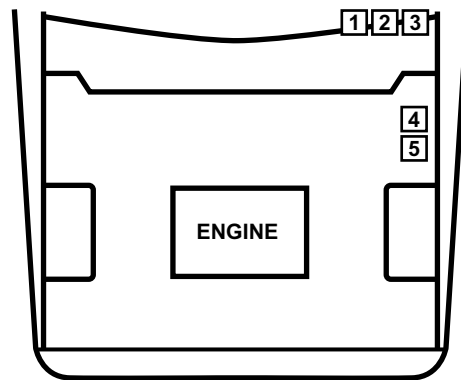

Figure 15-4 Loyale common connector locations
- “Loyale common connector locations” on page 167 (Table 15-4, Figure 15-4)